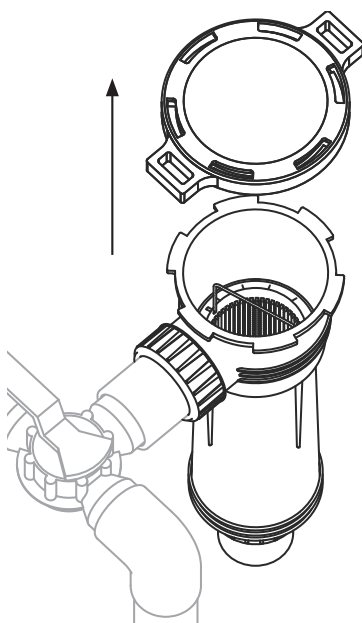

Figure 5
3. Lift the lid from the canister, remove the basket and empty the debris (Figure 5).